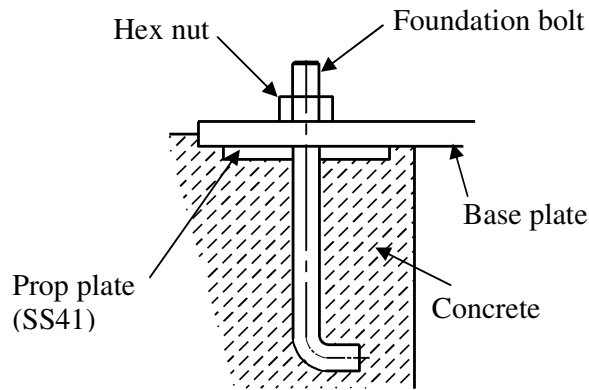
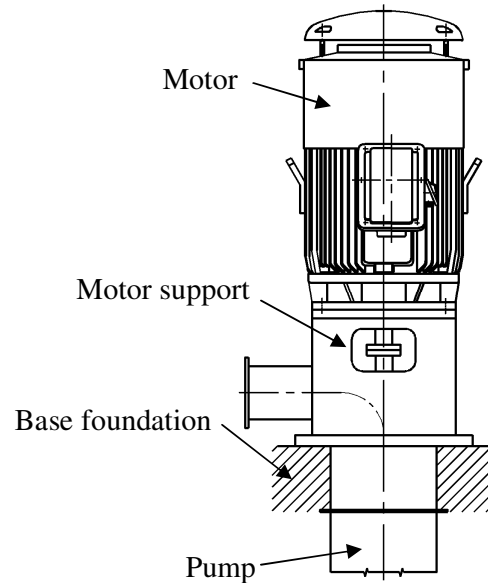

Fig. 7
Fig. 8
- (b) A massive concrete foundation is preferred in order to minimize vibration. Rigidity and stability are enhanced by prop plate and foundation bolt. As shown in Fig.7 and Fig.8.